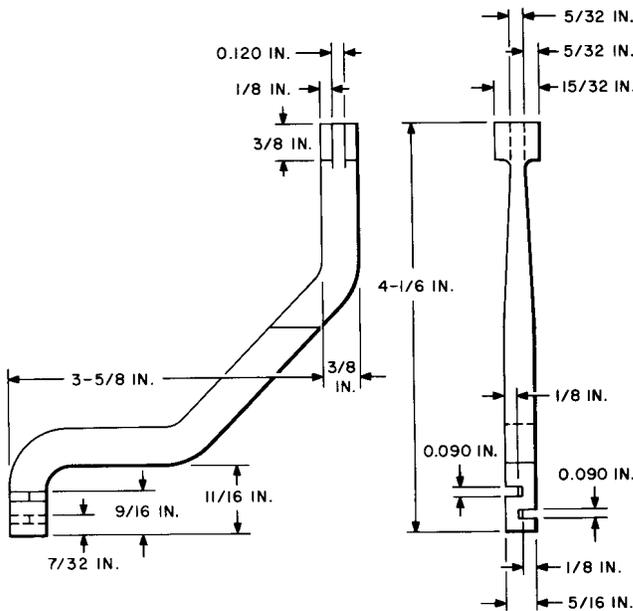

Fig. 10—R-1760 Adjuster Tool
2.10 **R-1760:** The R-1760 adjuster tool (Fig. 10) is used on the 200-, 206-, 209-, and 211-type selectors, 25-point rotary switches, and 1-type translators.